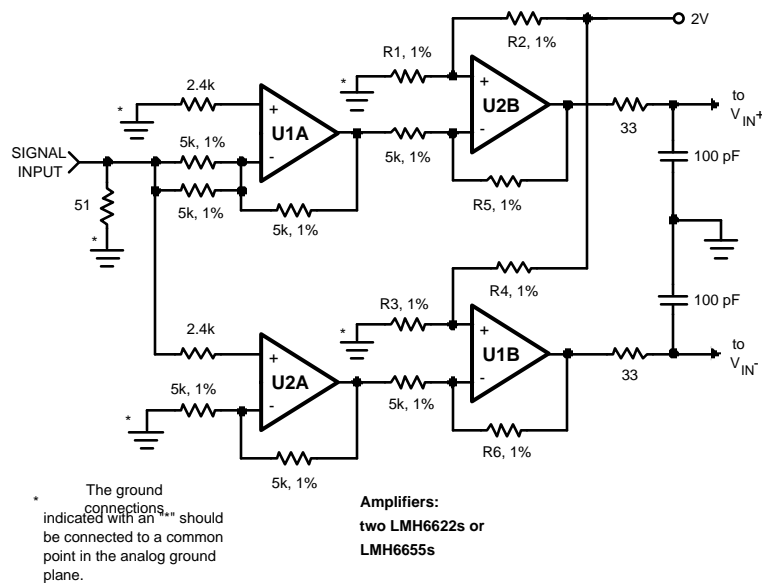

Figure 38. Differential Drive Circuit of Figure 37
A single-ended to differential conversion circuit is shown in Figure 38. Table 3 gives resistor values for that circuit to provide input signals in a range of 1.0V  $\pm$ 0.5V at each of the differential input pins of the ADC14L020.
**Table 3. Resistor Values for Circuit of Figure 38**
If the amplifier exhibits overshoot, ringing, or any evidence of instability, even at a very low level, it will degrade performance. A small series resistor at each amplifier output and a capacitor at the analog inputs (as shown in Figure 38) will improve performance. The LMH6702 and the LMH6628 have been successfully used to drive the analog inputs of the ADC14L020.